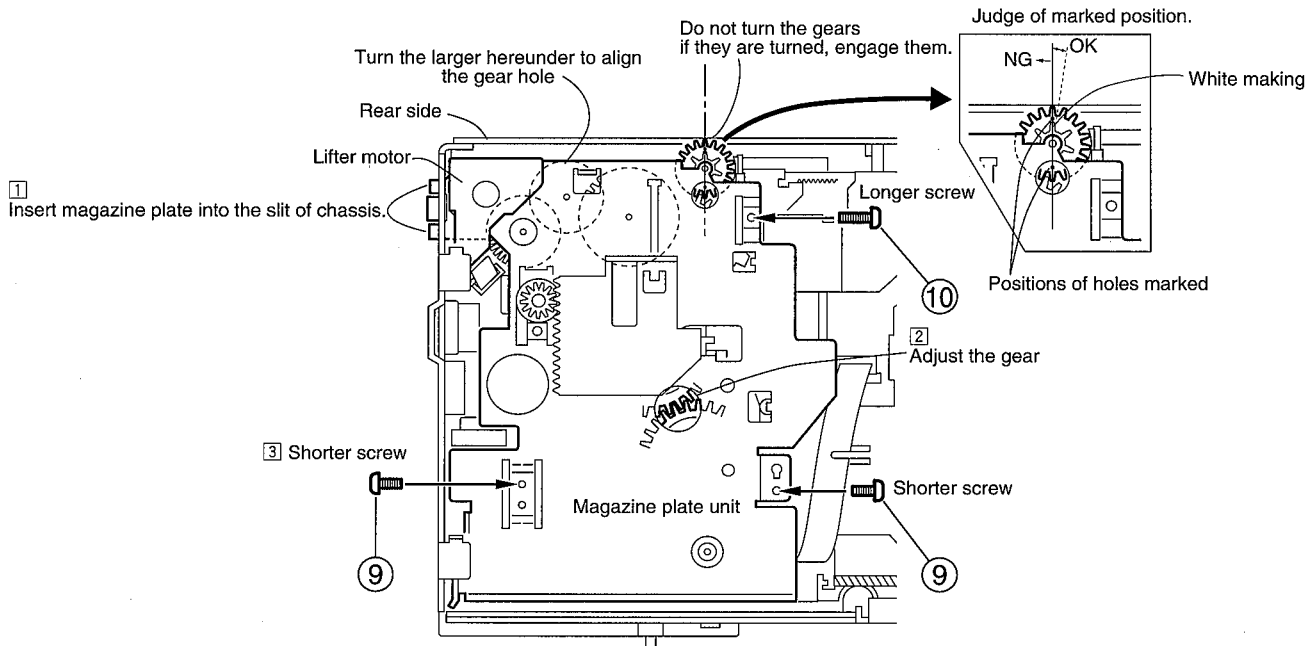

Fig.2-15
2. When installing the magazine plate unit ass'y, follow the instructions 1, 2 and 3 described in the Fig.2-15.